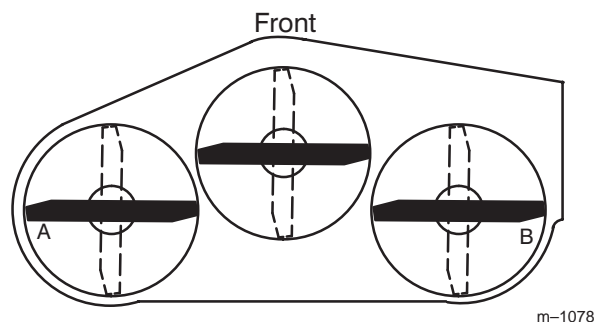
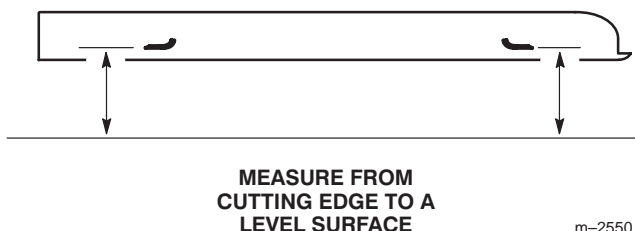

Figure 22
Figure 23
2. Position the blades side-to-side (Fig. 22).
Note: Measure at locations A and B (Fig. 22) from a level surface to the cutting edge of blades (Fig. 23).